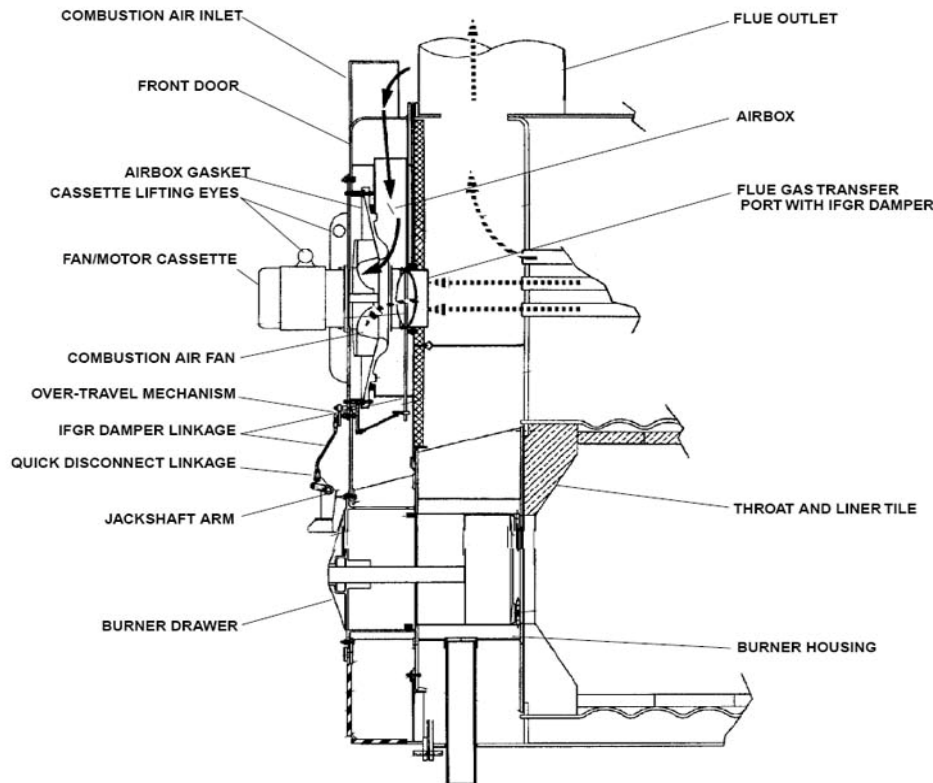

FIGURE 8-6. Induced Flue Gas Recirculation System (IFGR)
2. Check the clearance between the impeller and backplate (see Figure 8-6). Adjust, if necessary.